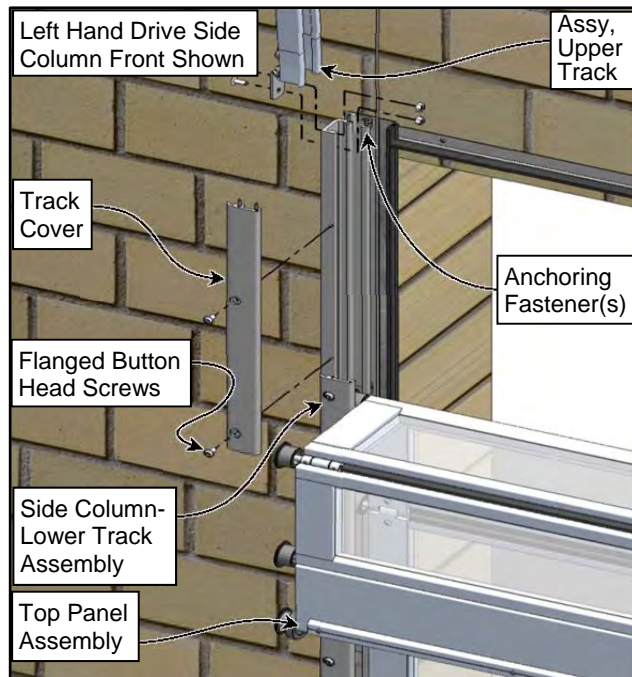

Figure 24
12. Tighten, repair, or replace the mounting anchor(s) as needed. Remove the track cover & fold door panel away from the wall as required to gain access to the mounting anchor(s). See "Door Panel Inspection" section, step 6 on page 11. (See Figure 24)